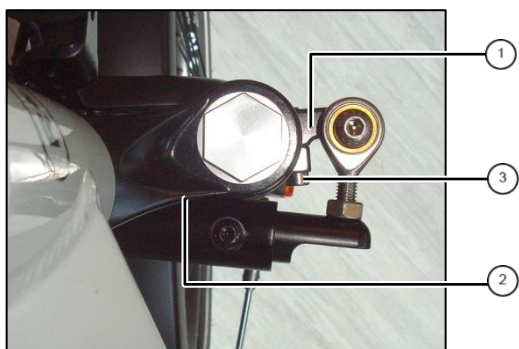

fig. 3: steering lever at front fork
1. Mount steering lever ① with bolts M5x20 ② and M5x25 ③ at right stancion. Do not tighten bolts.
2. Push steering lever to the top and adjust it according fig. 3. Tighten bolts ③ first and then bolts ② (not visible in fig. 3). **Tightening torque: 5Nm.**